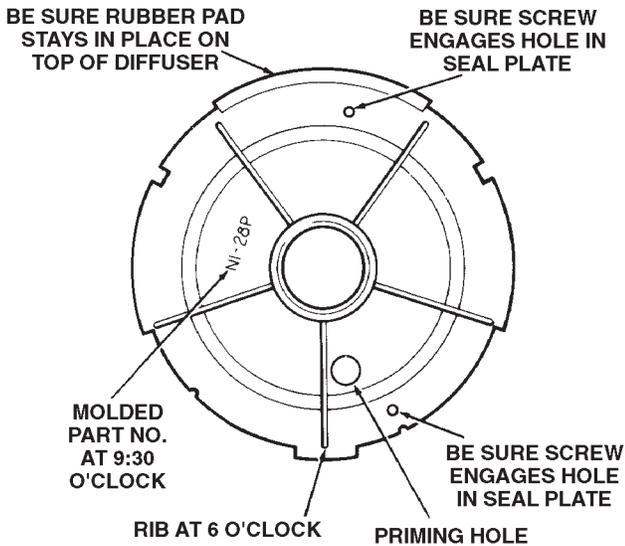

Figure 10
- J. Remount diffuser on seal plate. Be sure diffuser is right side up as follows (see Figures 10 and 11).
- c. Both mounting screws must engage screw holes in seal plate. See Figure 10.
- d. Be sure rubber pad (Figure 10; Key No. 8, Page 13) stays in place on top of diffuser.